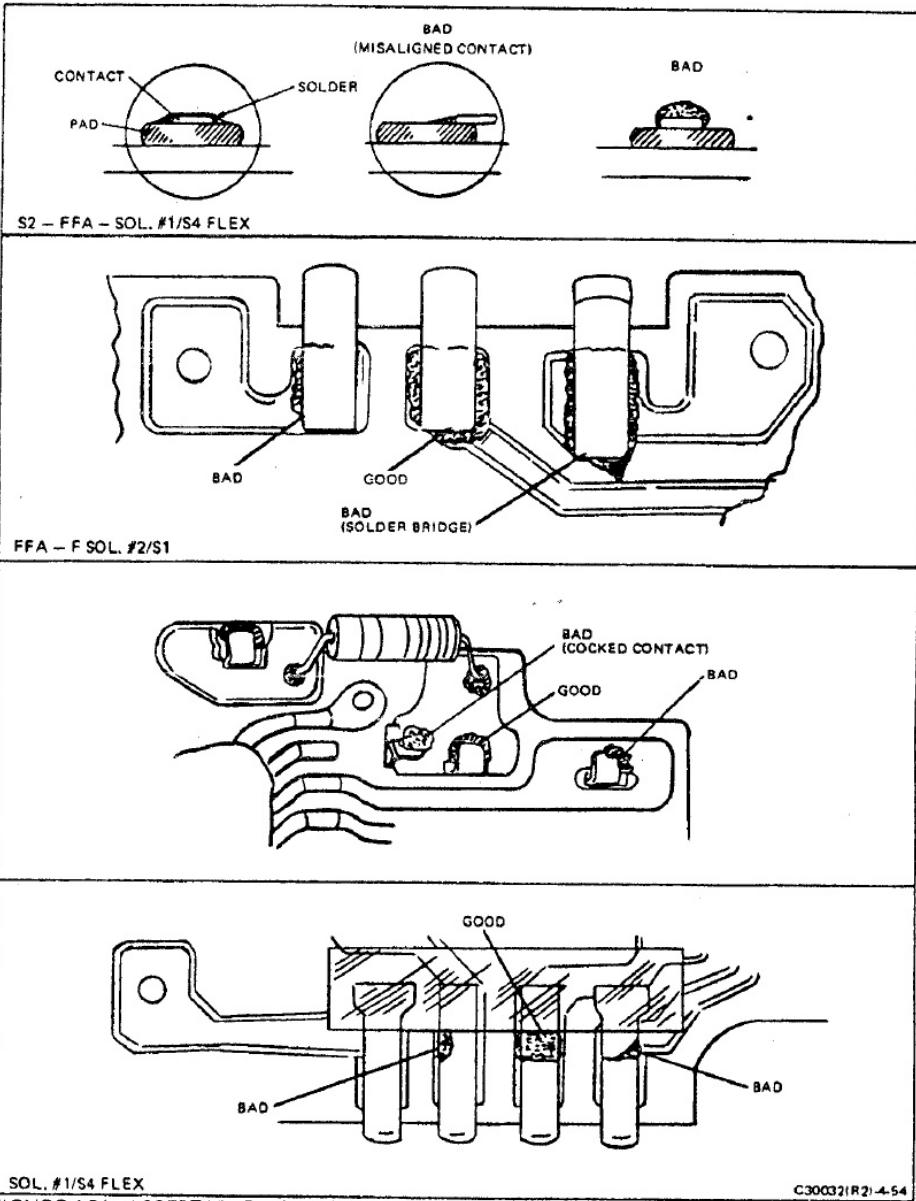

FIGURE 4-54 ACCEPTABLE/NON-ACCEPTABLE SOLDER JOINTS
- Check each of the solder leads visually. Figure 4-54 shows examples of good and bad solder joints. Be certain that the solder joints conform to the good examples. (A usually accurate indication of an acceptable connection is a neat, shiny solder joint.)